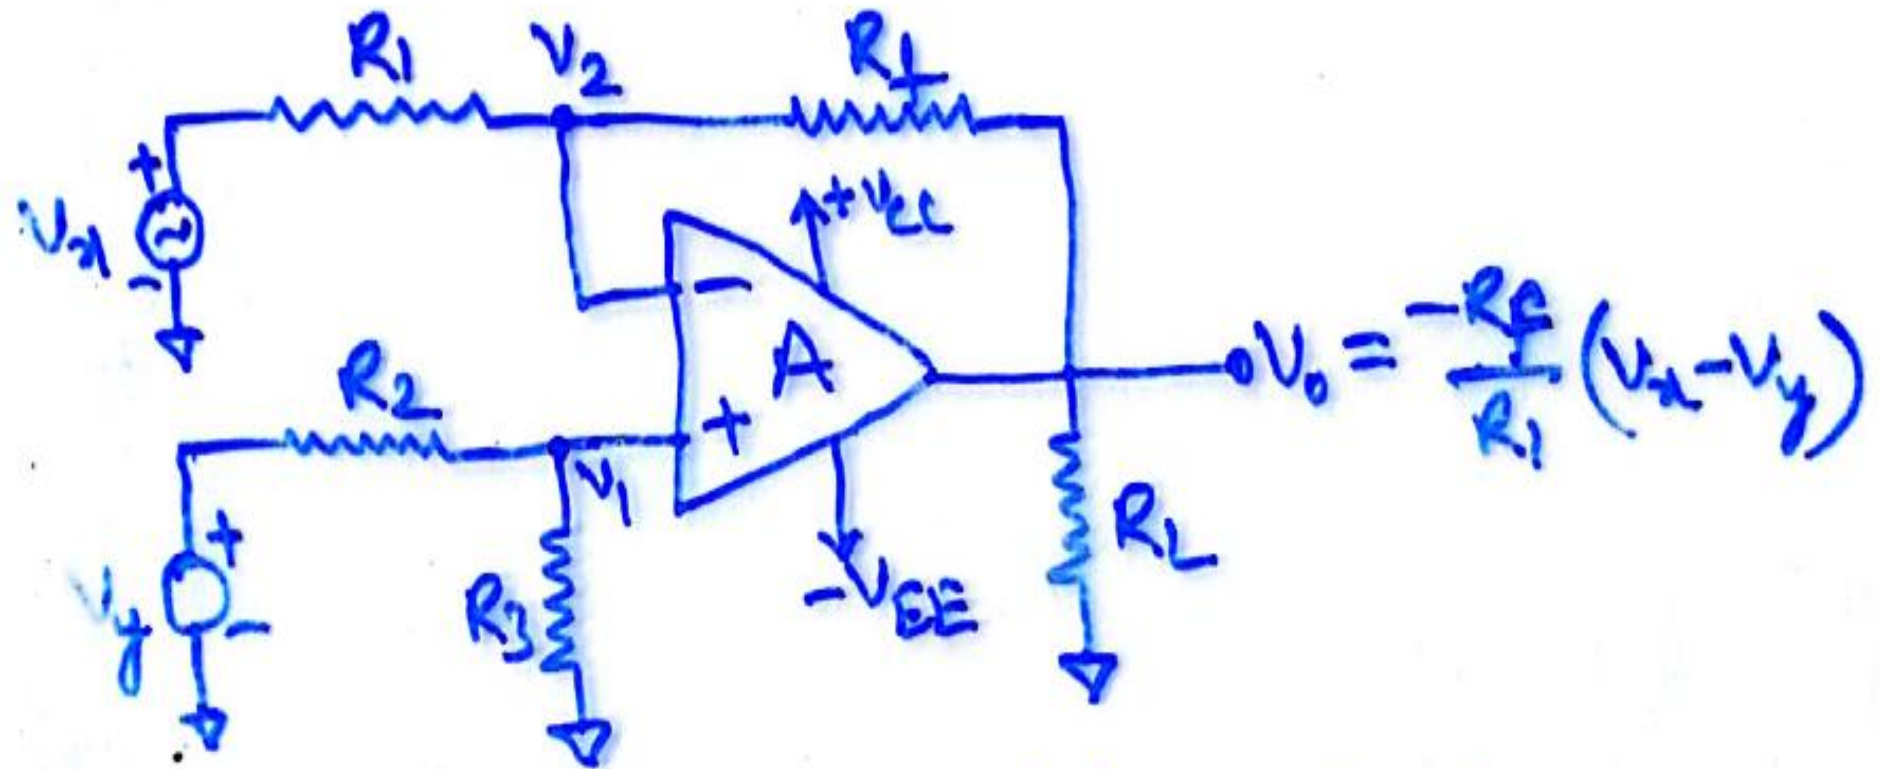

Fig 4-14 Difference amplifier. $R_1 = R_2$ & $R_f = R_3$
- Figure 4.14 shows the diagram of difference amplifier
- A close examination of the figure 4-14 reveals that difference amplifier is a combination of inverting and non-inverting amplifiers i.e. when $V_x = 0$, circuit is a non-inverting amp.
- The circuit in the figure 4-14 has two inputs V_x and V_y . Therefore we use super position theorem in order to establish the relation ship between inputs and output.
Example: In the circuit of figure 4-14, $R_1=R_2=1\text{K}\Omega$, $R_f=R_3=10\text{K}\Omega$, and the op-amp is a 741C, a) what are the gain and input resistance of the amplifier?